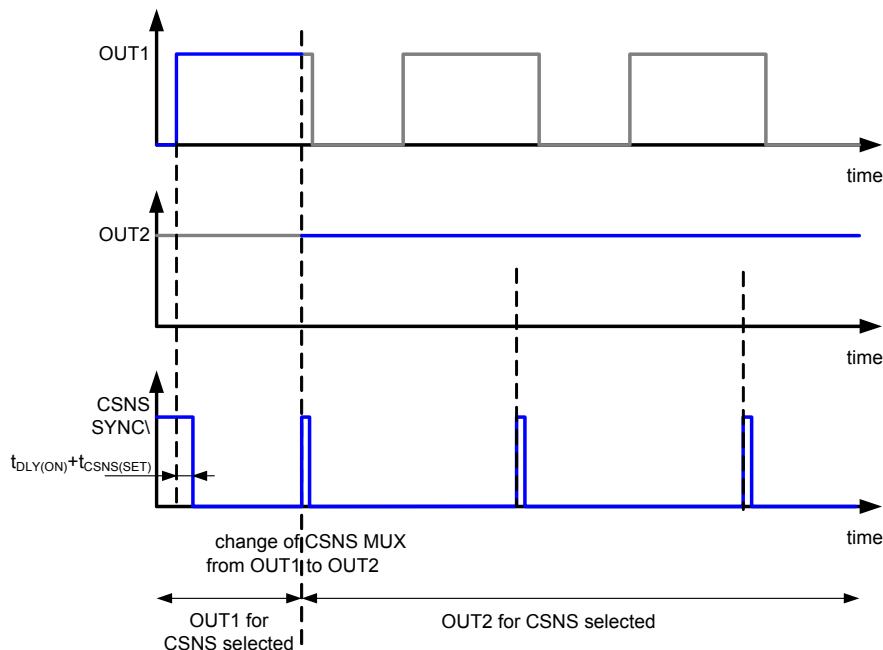

Figure 33. CSNS SYNCB when the output is programmed with 100%
- when the output is programmed with 100% PWM, the CSNS SYNCB delivers a logic[0] a high pulse with the length of 100 μ s (typ.) during the PWM counter overflow for TRIG0 and TRIG1/2 settings, as shown in Figure 33.